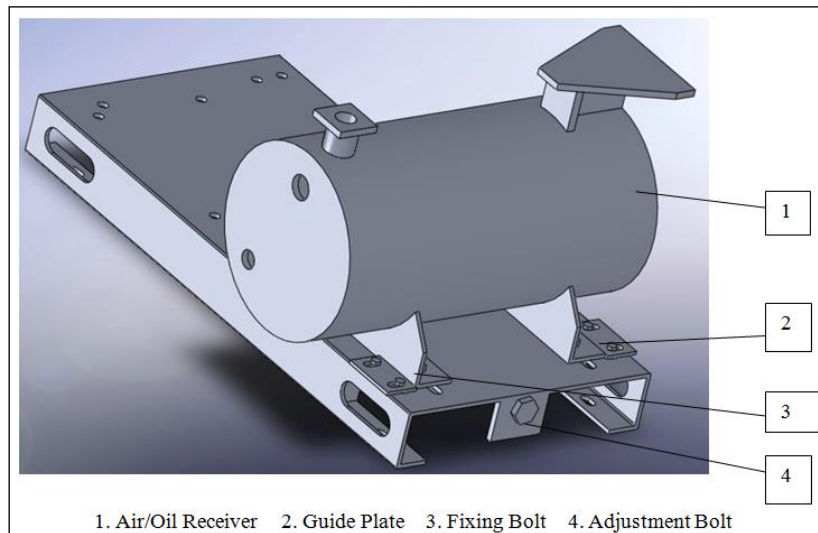

Figure 6-4 V-Belt Tension Adjustment
- c. To adjust the V-belt tension, the four fixing bolts under the main motor should be slightly loosened at first, and then the adjustment screw can be turned to move the main motor to tension the V-belts. After adjustment, the fixing bolts holding down the main motor should be retightened. Refer to Figure 6-4.